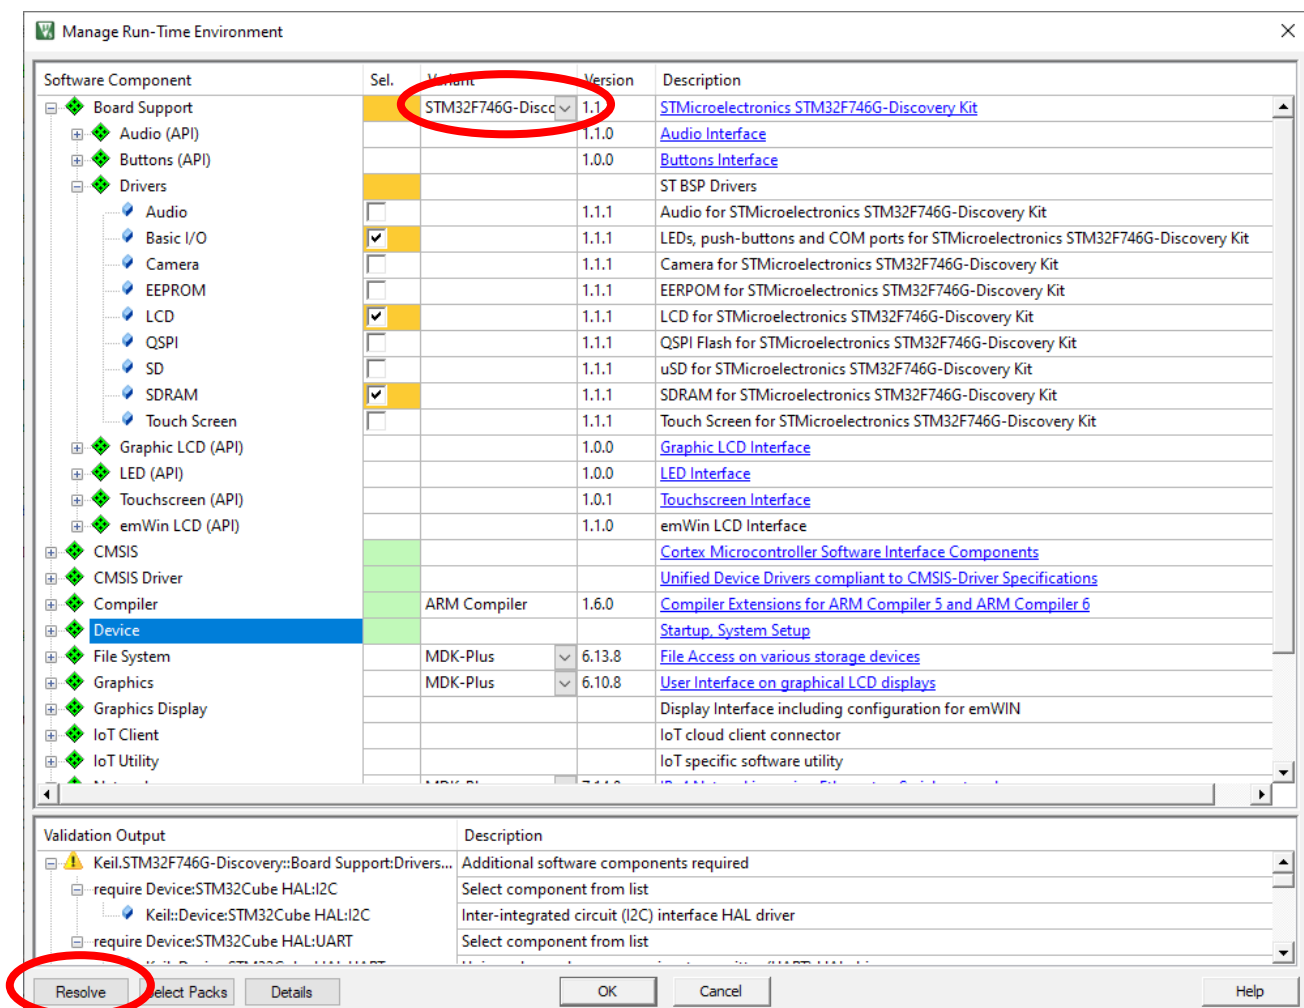

Figure 16 – Using the RTE manager to install board support packages for the LCD
3. You now need to add the drivers for the LCD screen. The simplest way to do this is through the RTE manager (as described in lab 101 – task 5, where we used it to add support for sending data over the UART to a serial terminal). Figure 16 shows the selection of components from the Board Support pack in the RTE manager.